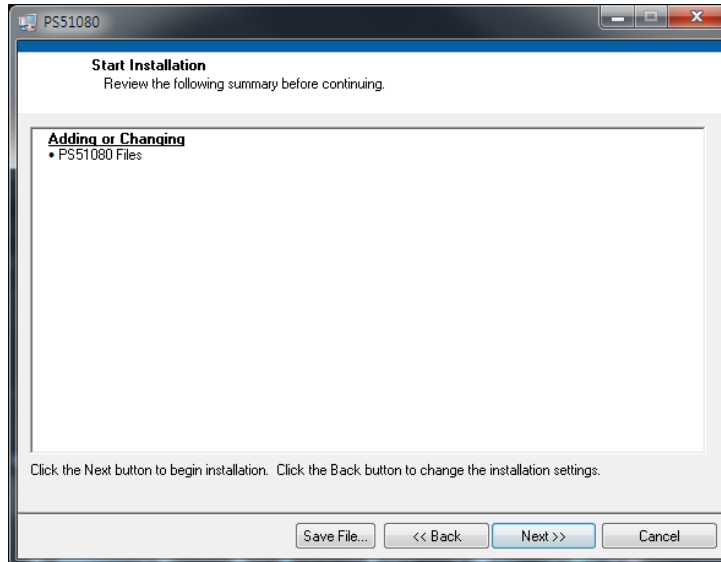
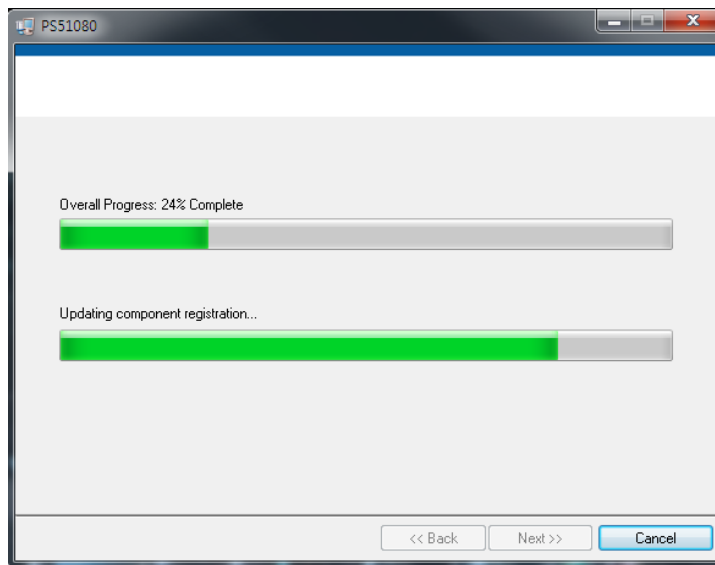

Figure 7-3: Click Next to Begin Installation
Figure 7-4: Installation Progress Window
- When the window shown in Figure 7-3 displays, click **Next**. The progress window, Figure 7-4 displays.